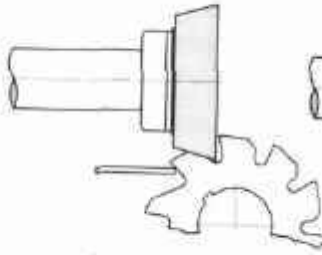
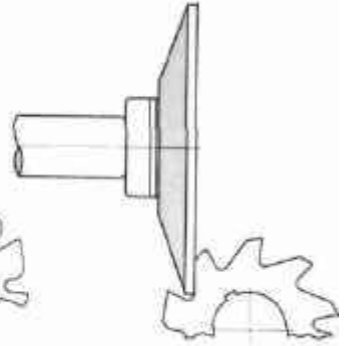

Figure 68C
Figure 68D
- (f) After sufficient flute depth has been created, mount a worn cup wheel and proceed in a similar manner to grind the backs of the teeth to a point that allows maximum chip space without weakening the tooth. (See Figure 68C.) A saucer wheel may also be used (Figure 68D).